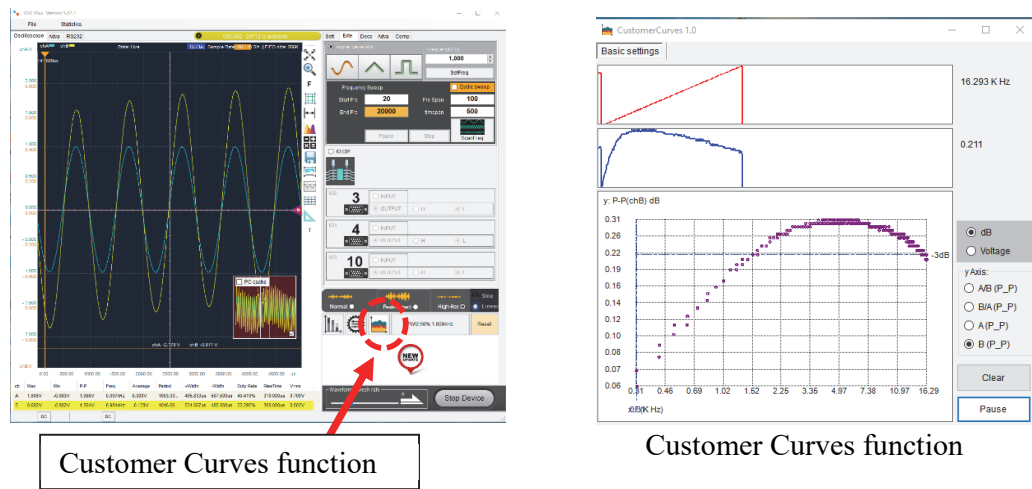

Fig. 18
- 5.3.15 The third way is to use the Customer Curves function  to view the whole desired frequency spectrum, as shown in Fig. 18. You could refer to the video (video8-use_customer_curve.mp4) for demonstration. The frequency is displayed in log scale in x-axis. You could get an idea how the curve looks like.